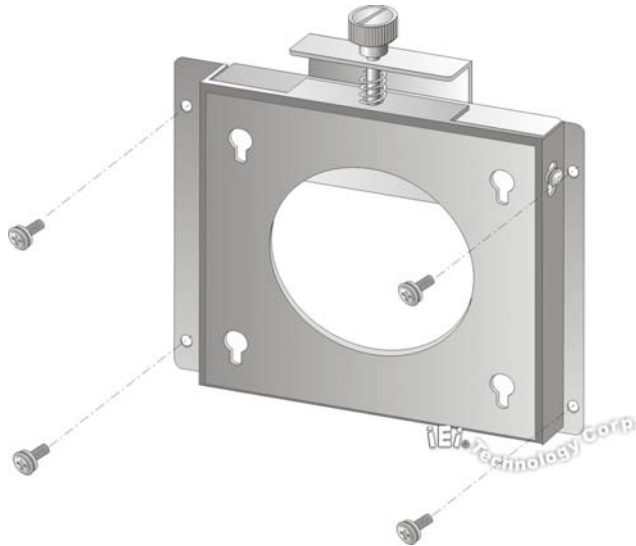

Figure 2-21: Wall-mounting Bracket
- Step 5:** Secure the mounting-bracket to the wall by inserting the retention screws into the four pilot holes and tightening them (Figure 2-21).